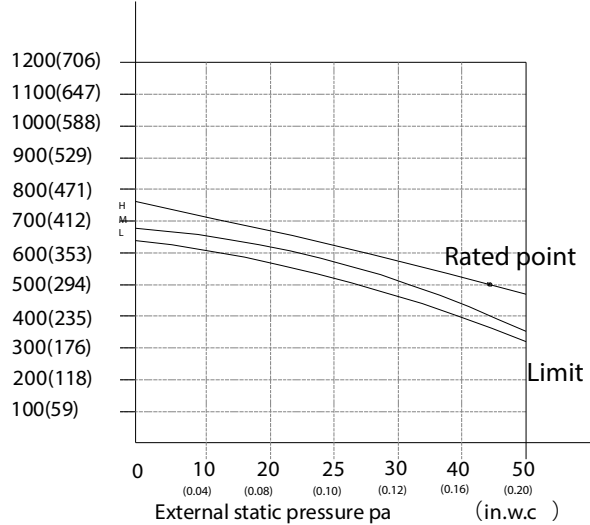

Fig. 15 — Size 9
1. If setting the external static pressure manually, select **SP** and press **CONFIRM**. Select the **SP** number (SP1, SP2, SP3, SP4 – see Table “FAN PERFORMANCES AT VARYING STATIC PRESSURES” on page 14 and curves (Figs. 15 through 21)). Power down the unit to lock in the selection.